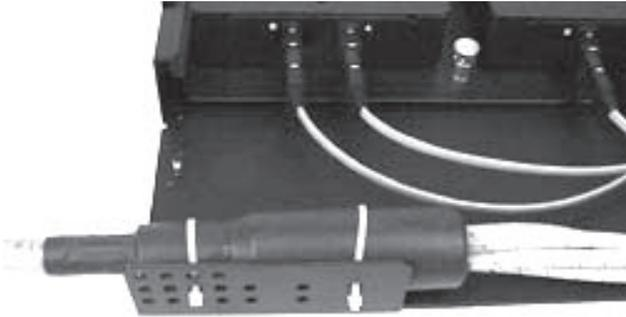

Figure 6
5.3 If using cable ties, attach the cable to the rear of the housing in two places as shown in Figure 6.